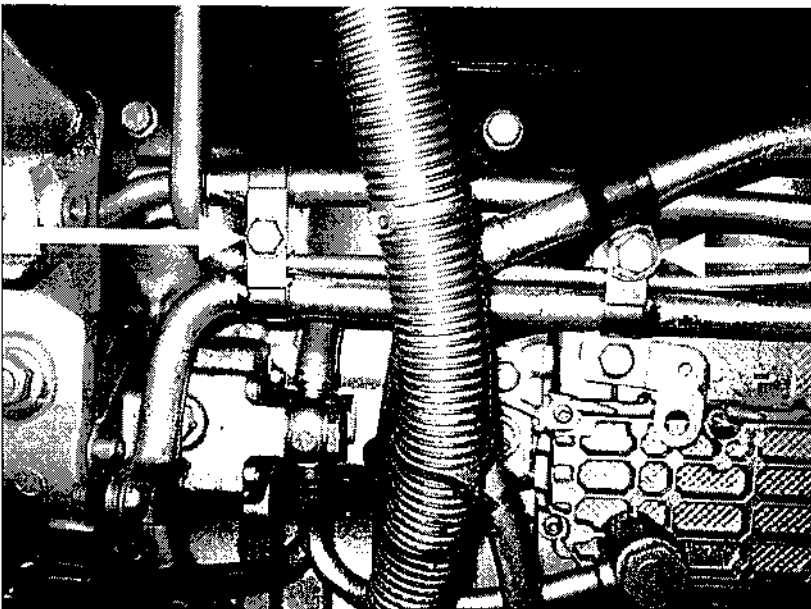

Figure 2 Fuel Line Clamp Removal
6. Remove two M8 x 40 bolts from the low pressure fuel line clamps. **Save bolts and clamps for reuse.** See Figure 2.